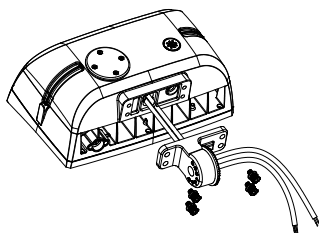

figure 2.1
- Step 2: Pass the rubber wire through the mounting head of the bracket and secure it with an inner hexagon screw.(Watch out not to scratch the wire); (figure 2.1)